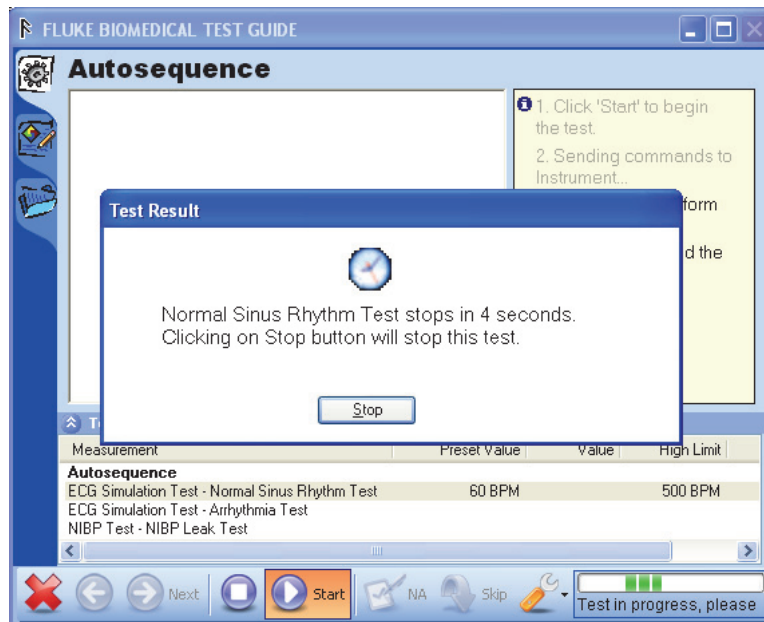

Figure 3-10. Normal Sinus Rhythm Test in an Autosequence
- Click  to start the test. ECG Simulation Test – Normal Sinus Rhythm Test is the first test element. A pop-up window shows in the display that identifies the test and counts down the duration time. A progress bar shows in the lower-right corner of the test guide window. You can also click the **Stop** button in the pop-up window to stop the test. See Figure 3-10.